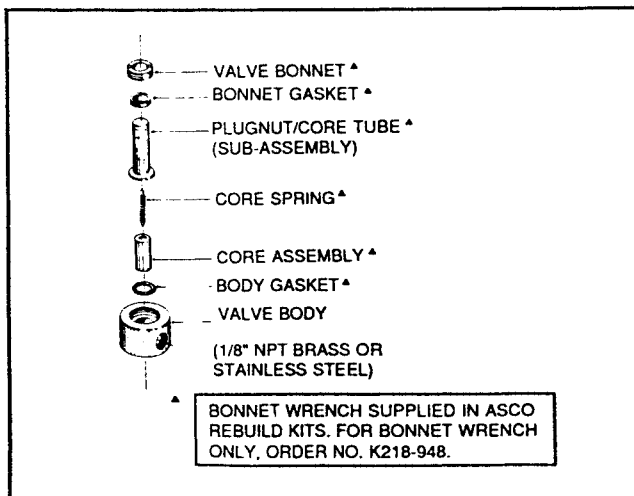

Figure 7
1. Use exploded views for identification, orientation and placement of parts. Reference figure 7.
Solenoids may be assembled as a complete unit. Tightening is accomplished by means of a hex flange at the base of the solenoid. The 3/4" bonnet construction (Figure 7) must be disassembled for installation and installed with a special wrench adapter.